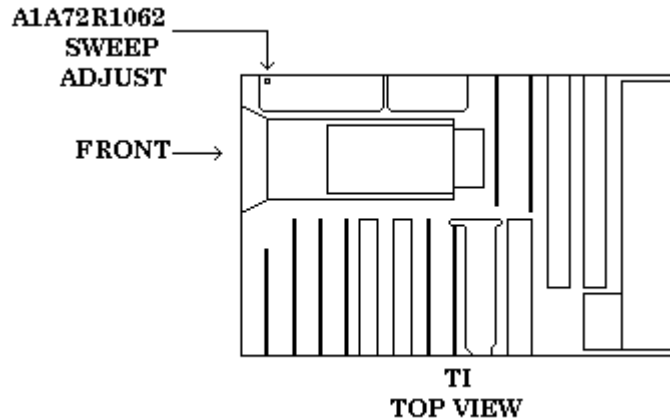

Figure 7. Sweep adjustment.
- (10) Set **TIME/DIV** control to **10 ms**.
- (11) Set oscilloscope calibrator for a 10 ms **MARKER** output.
- (12) Adjust A1A72R1062 (fig. 7) for one marker per division (R).